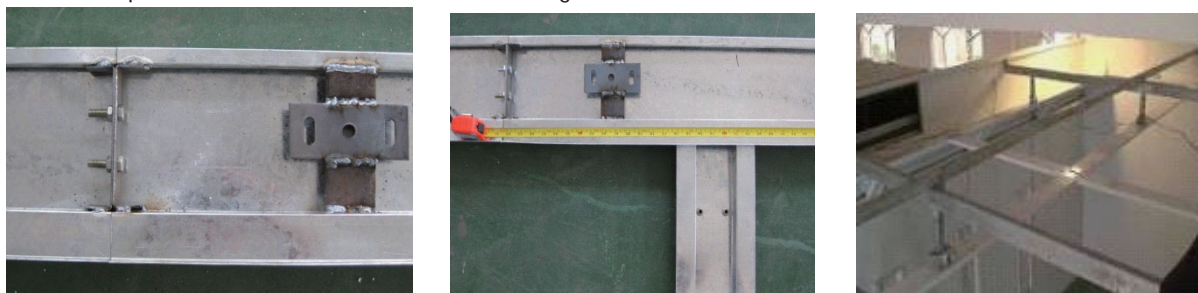

Fig. 2.30
2. Installate the top sealed board and cotton slot shown in Fig.2.30